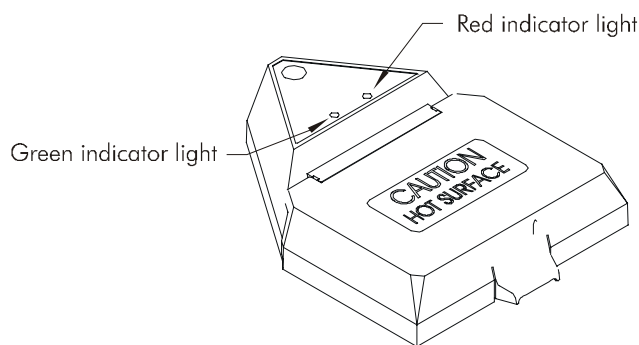

Figure 4 Indicator lights on the paddle assembly.
1. The Hot Top Assembly is automatically powered on when *RUN/STOP* is pressed to start the temperature cycler. The red indicator light on the paddle assembly illuminates, indicating that the unit has power (see Figure 4). When the green indicator light on the paddle assembly illuminates, the Hot Top Assembly is at the proper starting temperature and is ready to use (see Figure 4).